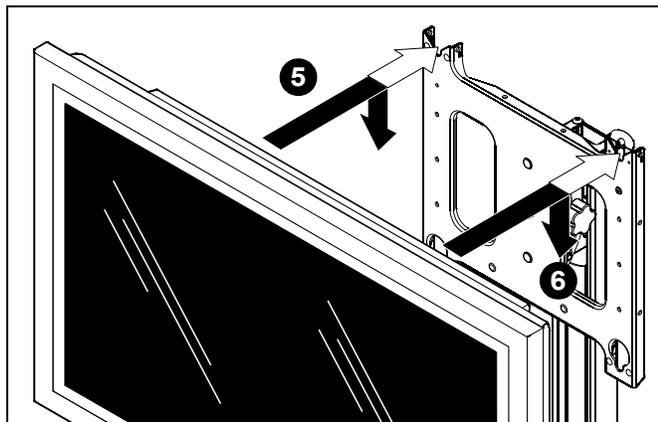
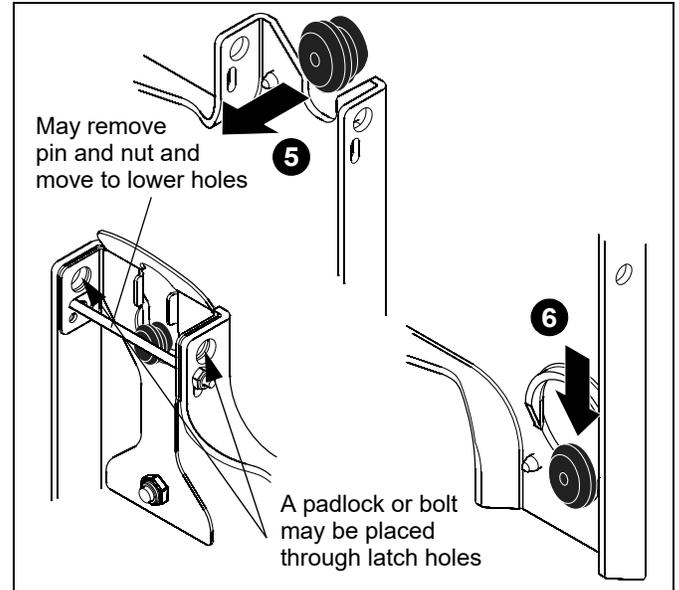

Figure 9
Figure 10
5. While supporting both sides of display, align four mounting buttons on display or interface bracket with four mounting holes in head assembly. (See Figure 9) and (See Figure 10)
6. Lower display into place listening for audible "click" to ensure recessed area of mounting buttons are properly seated in lower area of mounting holes. (See Figure 9) and (See Figure 10)
**NOTE:** Holes are provided in the faceplate for use with a padlock or similar locking device, if desired. In addition, the pin and nut may be removed from the upper holes and moved to the lower holes for use as a more permanent locking device. (See Figure 10)